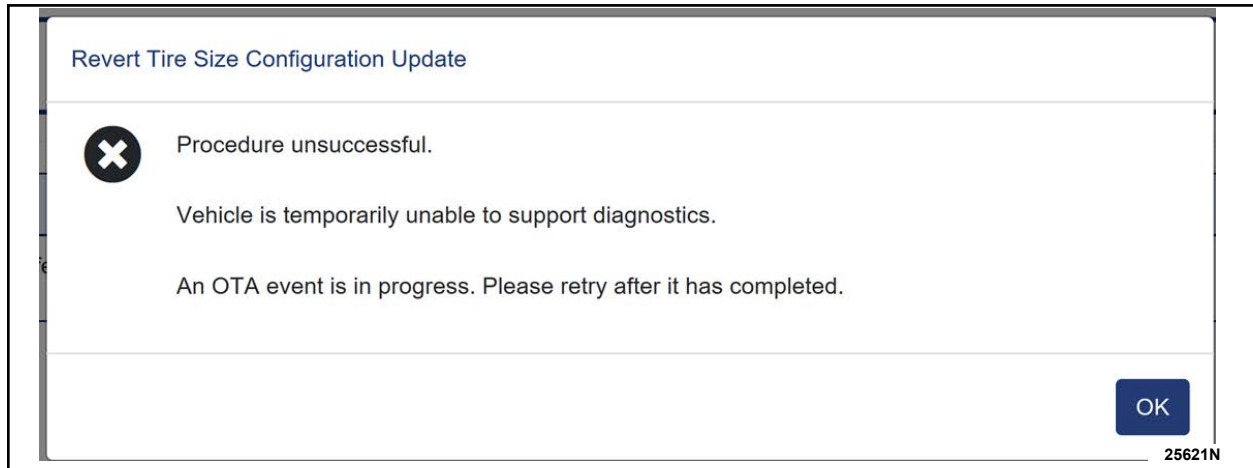

FIGURE 10
21. Was a **Procedure Unsuccessful** displayed on the screen as shown in Figure 10?